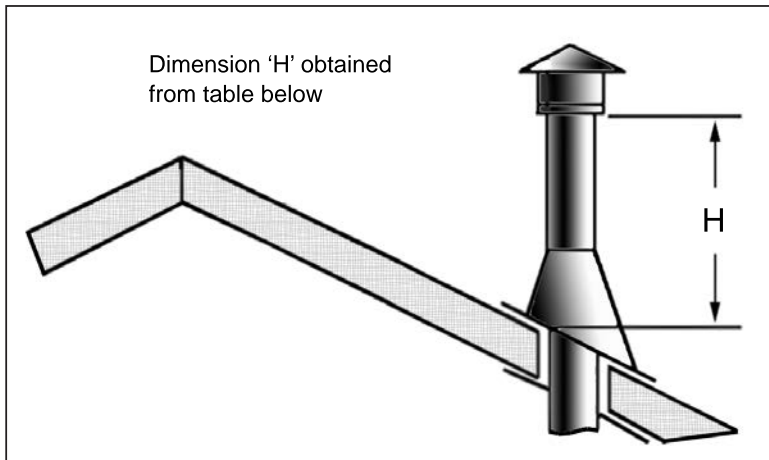

Figure 71: Height of Vertical Termination; Reference Table 8
- Step 4.** Measure roof pitch. Select the proper flashing and storm collar and determine the height above the roof (see Figure 71). A non-corrosive pipe material must be used for all exterior pipe lengths. Seal nail heads with silicone.
Table 9: Minimum 'H' for Figure 71.